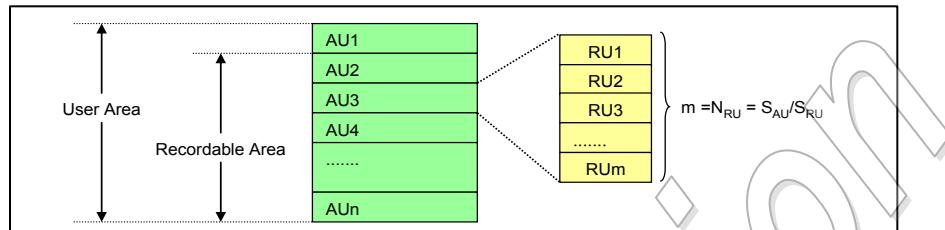

Figure 4-47 : Definition of Allocation Unit (AU)
4.13.1.1 Allocation Unit (AU)
The User Area is divided into units called "Allocation Unit (AU)" (Refer to Figure 4-47). AU is physical boundary in User Area of a card and is not defined by the file system boundary. Each card has its own fixed **AU Size (S_{AU})** and the maximum AU Size is defined depending on the card's capacity. The host
4.13.1.2 Recording Unit (RU)
Each AU is divided into units called "**Recording Unit (RU)**" (Refer to Figure 4-47). The unit of **RU Size (S_{RU})** is 16KByte. The RU Size is a multiple of 16KByte and shall not span across an AU boundary.